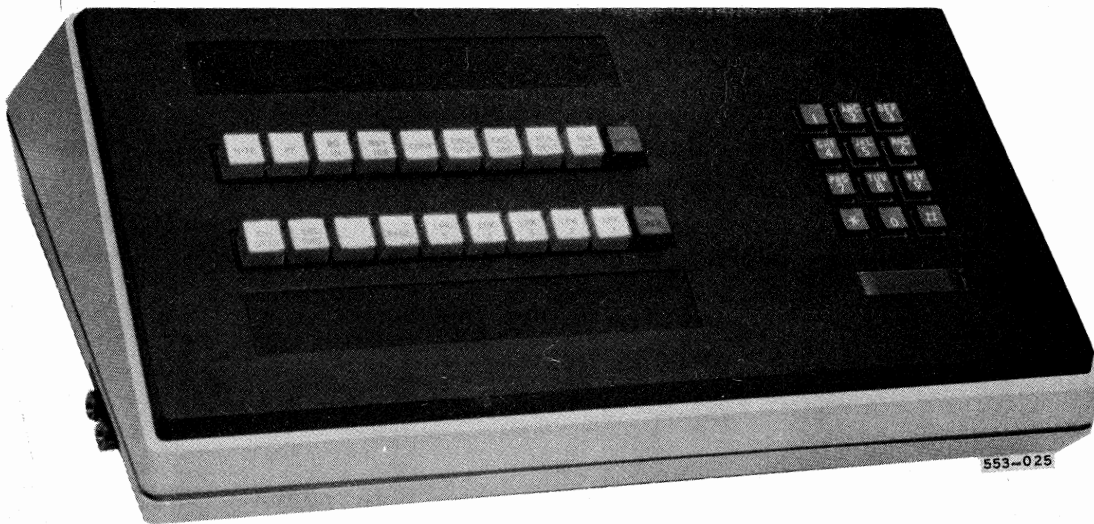

Fig. 1 – QCN100-Type Telephone Console
1.02 The QCN102-Type console (Fig. 2) differs from the QCN100-Type console (Fig. 1) in that it has a busy-lamp field mounted at the rear, a modified upper housing to accommodate the busy lamp field, and a removable lamp cover over the busy lamp field.